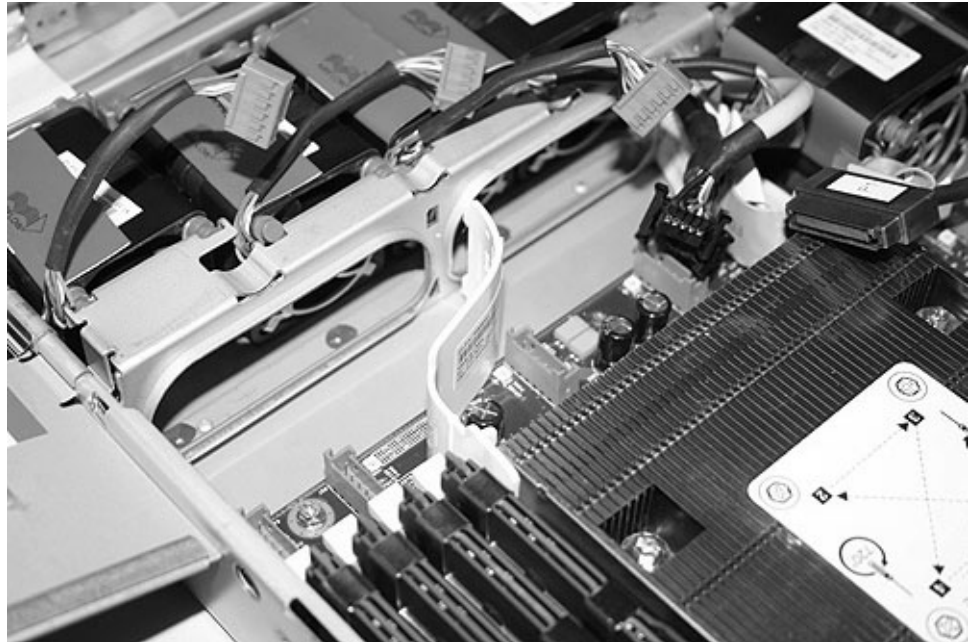

Figure 215. Right air baffle on the SAN Volume Controller 2145-8G4 system board
9. Replace the right air baffle, which is shown in Figure 215 on page 231.